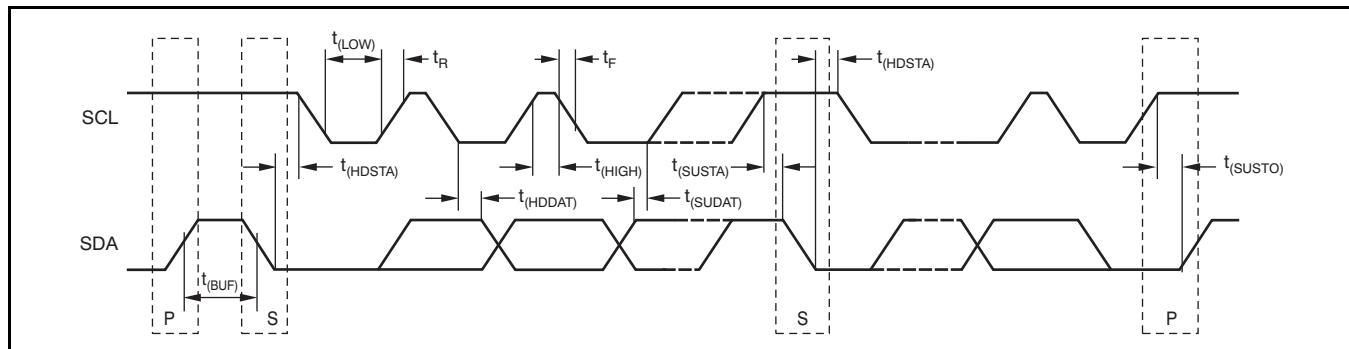

Figure 16. Two-Wire Timing Diagram
Figure 16 describes the timing operations on the BUF18830. Parameters for Figure 16 are defined in Table 5. Bus definitions are:
**Start Data Transfer:** A change in the state of the SDA line, from high to low, while the SCL line is high, defines a START condition. Each data transfer is initiated with a START condition, denoted as S in Figure 16.
**Stop Data Transfer:** A change in the state of the SDA line from low to high while the SCL line is high defines a STOP condition. Each data transfer terminates with a repeated START or STOP condition, denoted as P in Figure 16.
Table 5. Timing Characteristics for Figure 16